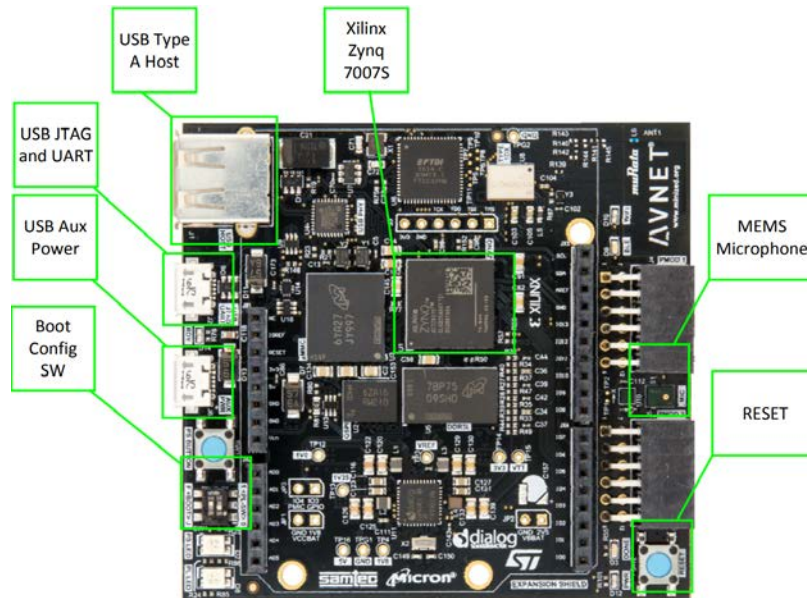

Figure 29 – Reset Button
- b. If your MiniZed boot configuration switch is similar to the above, remove the protective film and slide switch 1 (indicated by the silkscreen DASH above the F) to be toggled to FLASH Booting (F).
- c. Reboot your MiniZed using the Reset button (see Figure 29 – Reset Button)